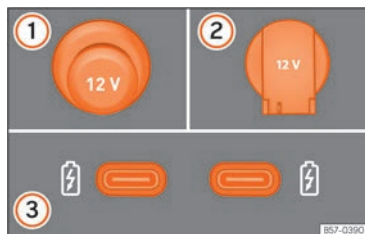

Fig. 132 12 volt power socket: (1) in the centre console, (2) in the luggage compartment. The USB power socket is located at the rear of the centre console (3).
- Remove the cover from the socket, located on the centre console »» Fig. 132 (1).
- Lift the power socket cover »» Fig. 132 (2).
These USB ports are located in the rear part of the centre console, between the front seats »» Fig. 132 (3). These connectors can work at a maximum power of up to 10.5 W per port.